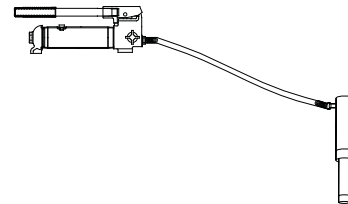

Figure 5 - Illustration to bleed air from system
1. Place pump at a higher elevation than the hose and ram as shown in figure 5